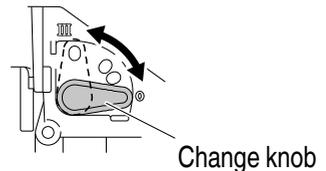

Fig. 12
- (1) This Jig Saw employs orbital operation which moves the blade back and forth, as well as up and down. Set the change knob shown in **Fig. 12** to "0" to eliminate the orbital operation (the blade moves only up and down). The orbital operation can be selected in 4 steps from "0" to "III".